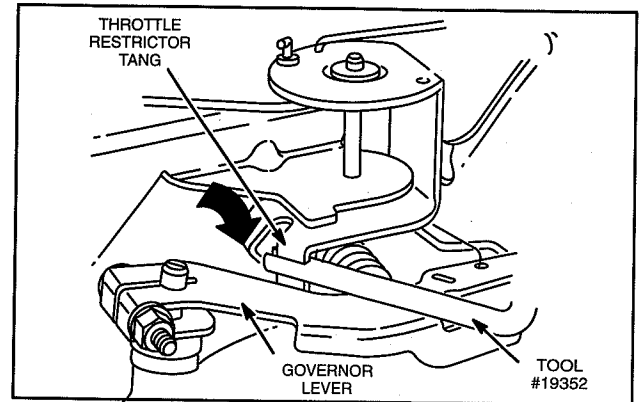

Fig. 30 – Adjusting Throttle Restrictor
3. With equipment control lever in SLOW position and engine running at governed idle RPM, use tang bender, Tool #19352, and bend throttle restrictor tang so that tang just contacts governor lever, Fig. 30.